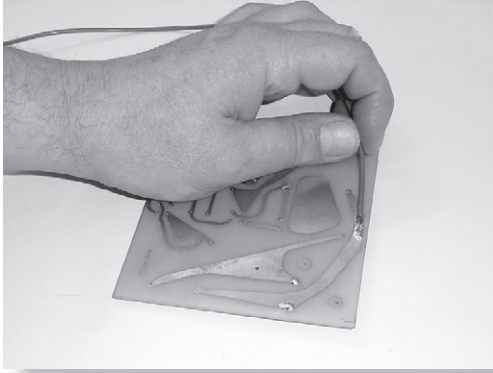

FIGURE 5.19 Position the tinned connecting lead end over the tinned copper track.
- **HOLD** the tinned end of the lead on the tinned copper track, as shown in Figure 5.19